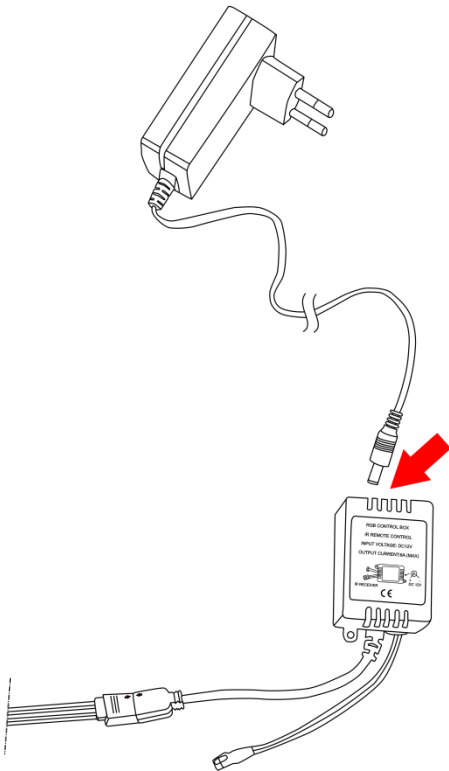

Fig. 04
02) Then connect the RGB controller with the power supply, see figure 04.